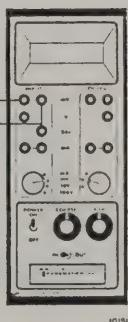

FIGURE 2-11b
1. Connect the T/C leads to the 1045's mV input terminals (see Figure 2-11b below). Connect the red T/C lead to the black (-) terminal and the color-coded T/C lead to the red (+) terminal.